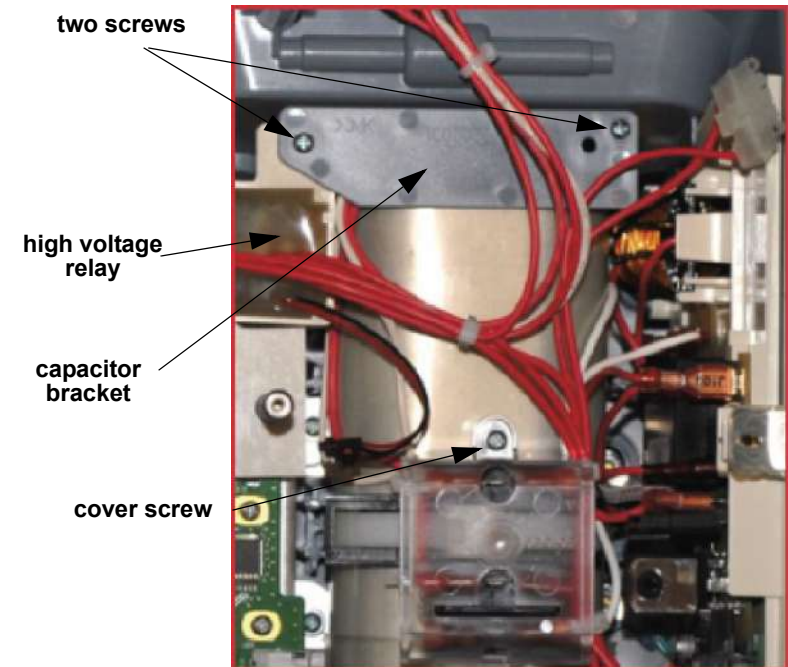

Figure 10.65—Transfer relay parts and screw locations
Refer to Figure 10.65 on p. 389.
3. Connect the white transfer relay lead to the interconnect bracket at pin 7 (see Figure 10.65 on p. 389). Needle nose pliers may be used to assist in the connection.
5. Install the capacitor bracket (3207031-001) using two new screws (202253-761); torque to 6.8 in-lb (see Figure 10.65 on p. 389).